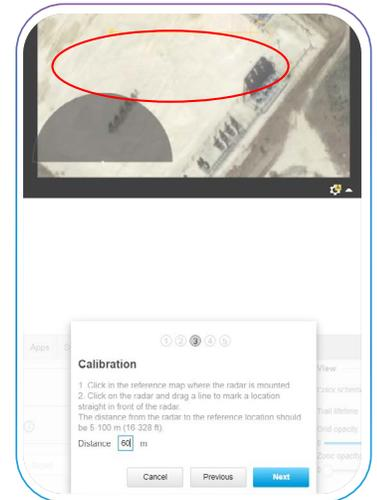

Figure 19. Entering the distance between the reference points
- After dragging the line straight in front of the Radar, enter the distance (**Figure 19**), in meters, from the Radar to the reference location.